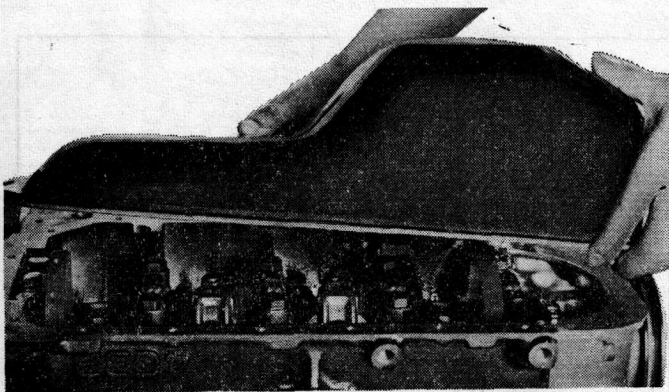

Fig. 70 Removing the Oil Pan
- (1) Using the 1 inch 12pt. deep Socket or open end wrench, remove the oil pressure gage.
- (2) Remove the crankshaft pulley that has been previously loosened.
- (3) With the engine placed upside down, remove the oil pan. (Fig. 70)
- (4) Remove the oil screen.